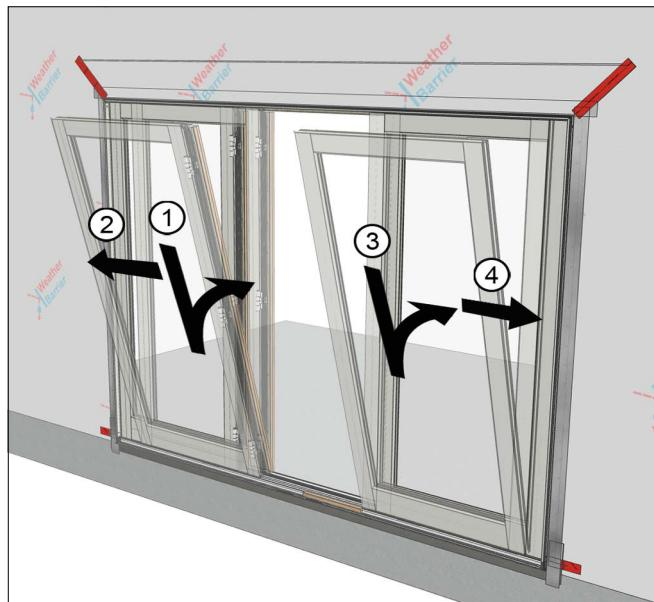

Figure 28
2. Stationary panel is installed first by tipping panel in over the sill retainer and then sliding over and engaging the panel bracket into the sill retainer and jamb retainers. See Figure 28. *It's recommend to install one stationary panel at a time following steps 3-5 and then repeating for the other panel.*